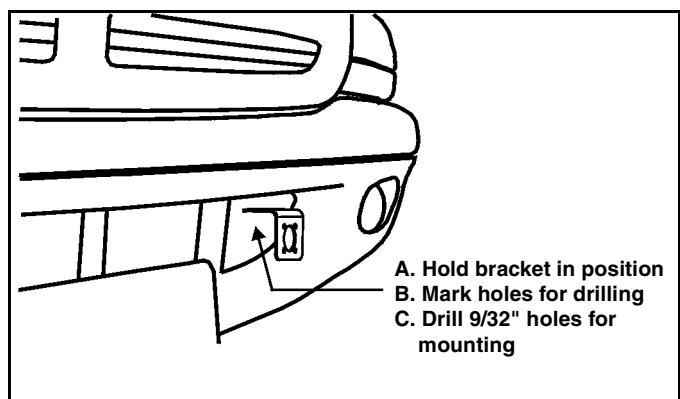

Figure 1-1
1. Using bracket as a template, mark and drill two 9/32" holes into vehicle bumper or other suitable location for mounting of harness bracket. (See Figure 1-1)